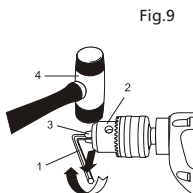

Fig.9
2. Insert a 5/16" or larger hex key (1) into the chuck (2) and tighten the chuck jaws securely. Make sure each of the three chuck jaws (3) is seated on the flat surfaces of the hex key (fig. 9).
2. Tap the hex key sharply with a mallet in a CLOCKWISE direction (fig. 9). This will tighten the chuck on the spindle.